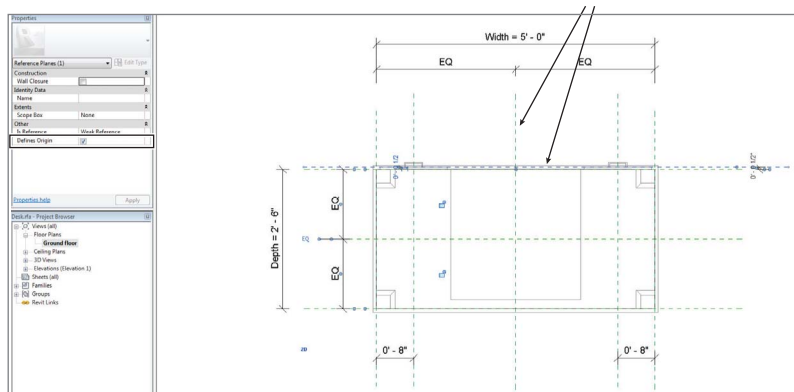

FIGURE 6.12 Editing the origin of a family
5. For each of the two reference planes indicated with arrows in Figure 6.12, select the plane and select the check box for the Defines Origin parameter in the Properties palette. You may need to press the Tab key several times while hovering the mouse cursor over the horizontal reference plane because of its close proximity to other geometry.